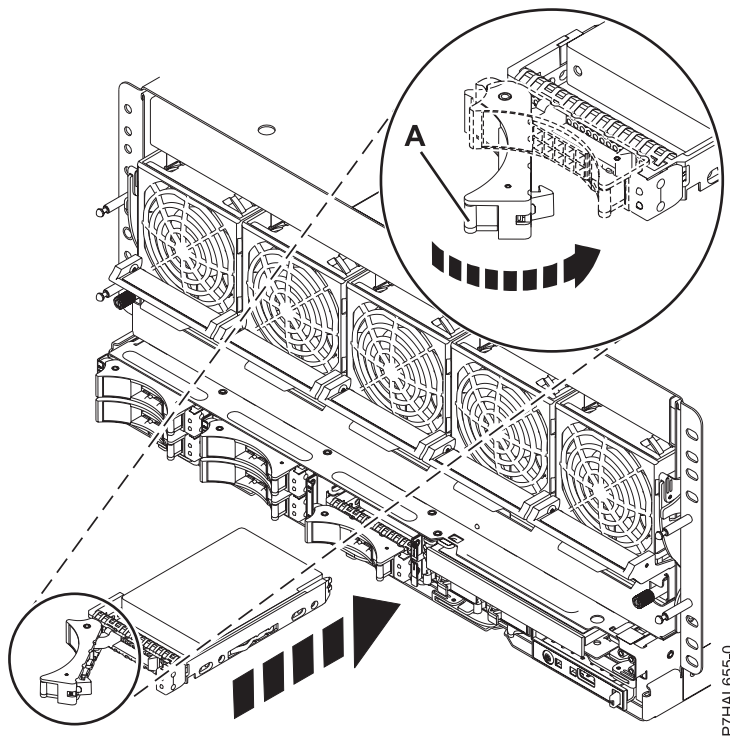

Figure 44. Replacing a disk drive or solid-state drive in the system
6. Slide the disk drive or solid-state drive all the way into the system or an expansion unit, and push the drive handle (A) in until it locks, as shown in Figure 44.